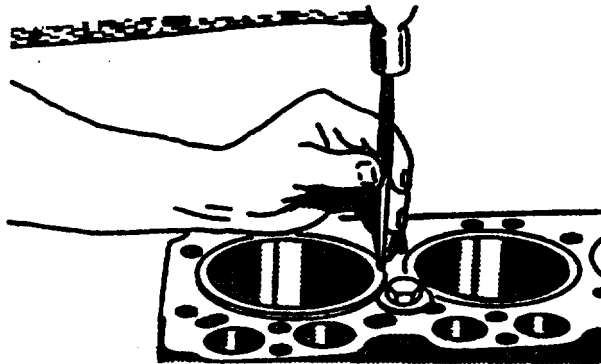
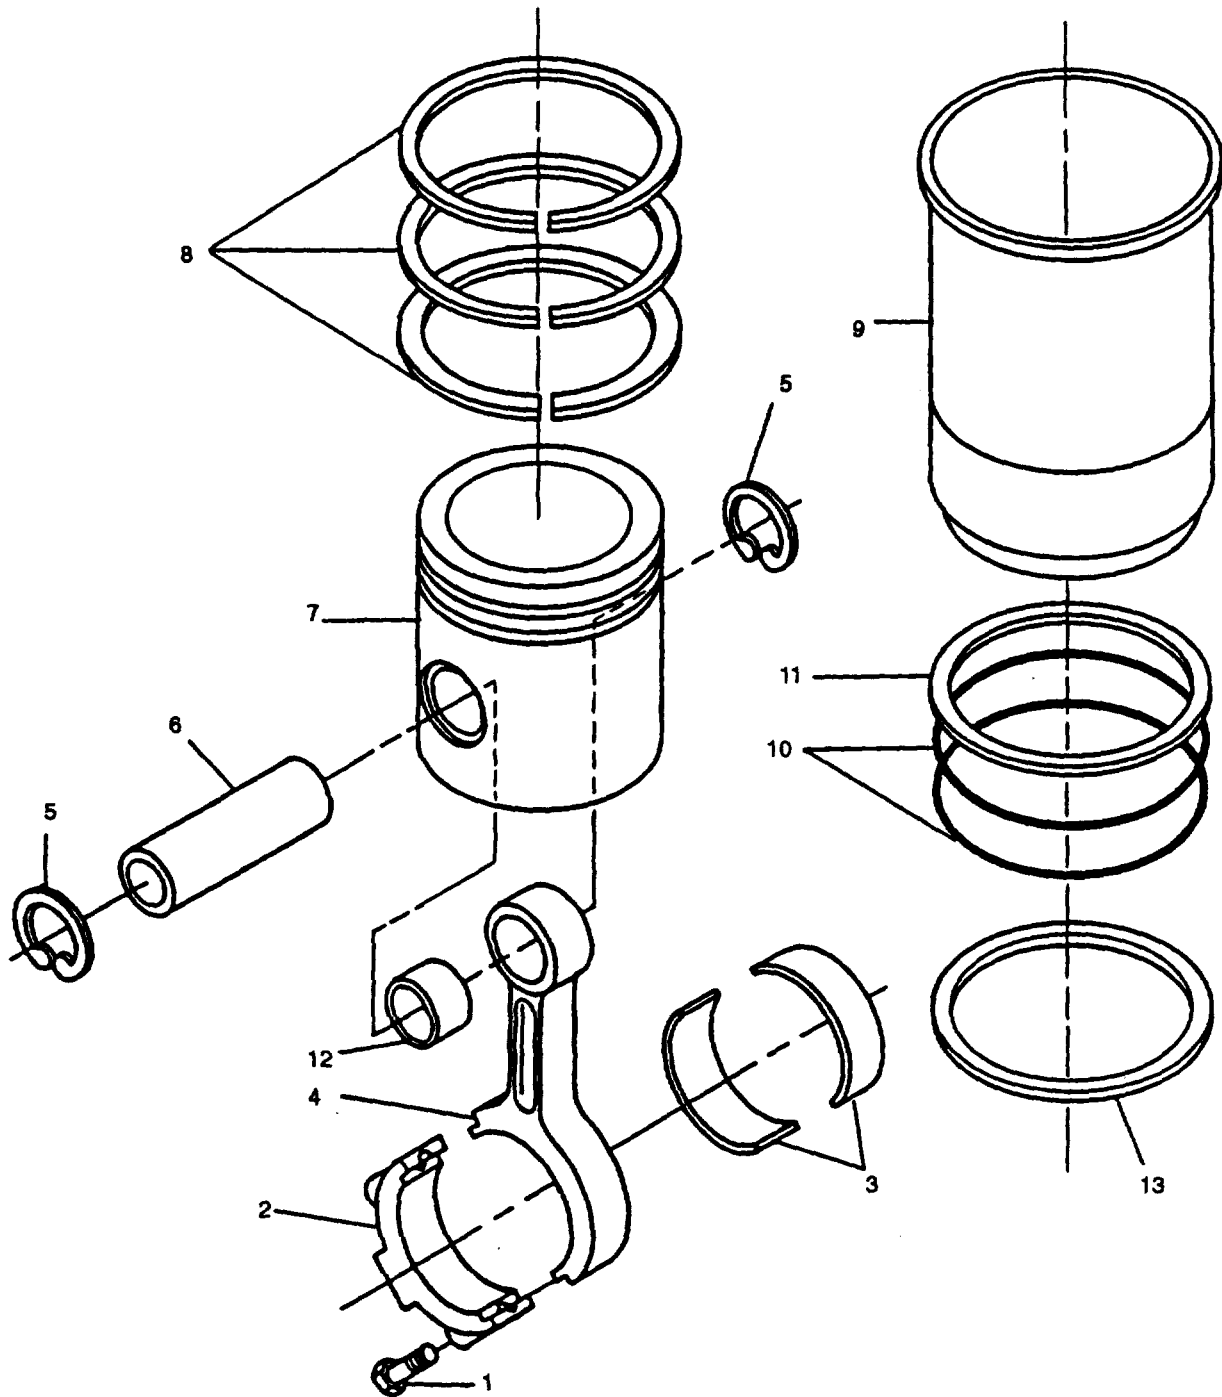
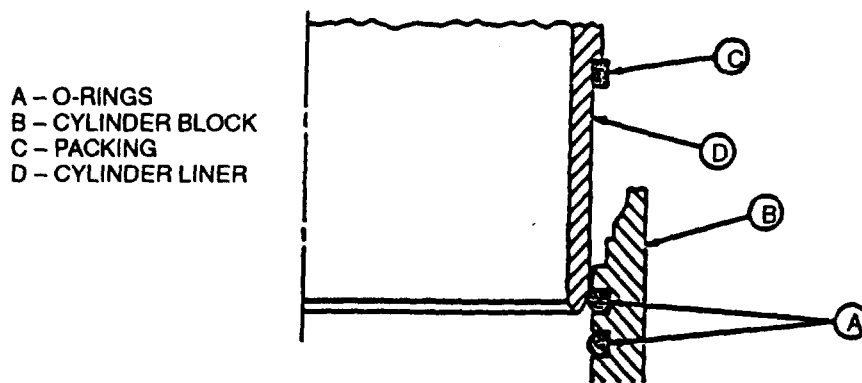

FIGURE 3-123. Marking Cylinder Liners
FIGURE 3-124. Pistons, Connecting Rods, and Cylinder Liners
FIGURE 3-126. Cylinder Liner O-Rings and Packing
- (1) The crosshatch honing pattern is not visible immediately below the top ring turn around area.
- (2) Liners are pitted or contain deep vertical scratches that can be detected by the fingernail.
- (3) No further inspection is required if any one of the above conditions are found.
Keep bearing inserts (3, FIGURE 3-124) with their respective rods (4) and caps (2). Mark rods (4), pistons (7), and caps (2) to ensure correct assembly in same location.
- l. Remove bolt (1) securing bearing cap (2) to connecting rod (4); remove cap (2) and bearing inserts (3).
c. Number cylinder liners (9, FIGURE 3-124) and pistons (7). Stamp front of liner to assure correct assembly. Do not stamp liner flange; stamp on fire dam only (raised part of liner), refer to FIGURE 3-123.
Each cylinder liner (9, FIGURE 3-124) must be reinstalled in cylinder bore from which it was removed. Always keep matched pistons and liners together.
- e. Remove cylinder liner O-rings (10, FIGURE 3-124) from grooves in engine block. Also remove packing (11) from cylinder liner (9), refer to FIGURE 3-126. Discard -rings and packing.
- a. Remove piston rings (8, FIGURE 3-124) from piston (7) using piston ring expander. Discard piston rings.
- b. Remove two retaining rings (5) and remove piston pin (6). Discard retaining rings.
- c. Separate piston (7) and rod (4). Keep these parts in place with their respective cylinder liner (9).
- p. Install pin (6, FIGURE 3-124) through piston.
- (1) Pin should pass through piston using only light thumb pressure.